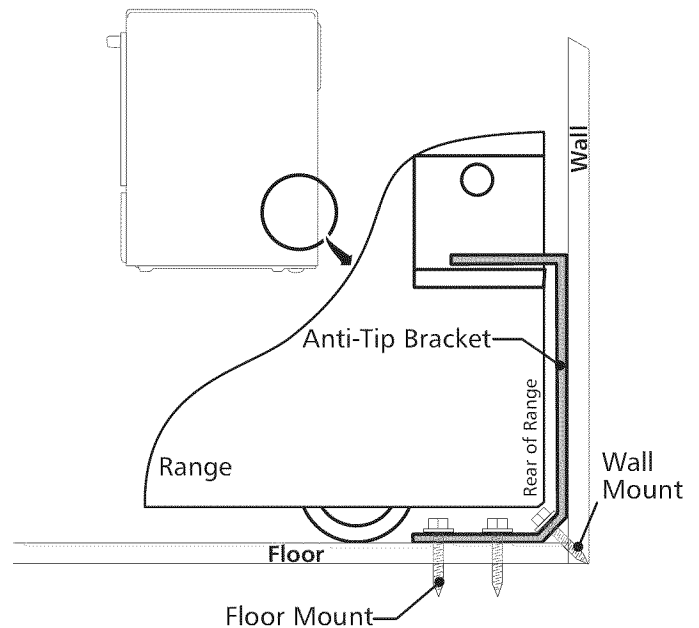

Figure 9
4. Remove template and place bracket on floor. Line up holes in bracket with marks on floor/wall and attach with screws provided. Bracket must be secured to solid floor or wall (Figure 9). If attaching to concrete floor, first drill 3/16" (0,48 cm) dia. pilot holes using masonry drill bit.
6. Slide range into place making sure structure of the range is trapped by the anti-tip bracket (Figure 9). Lower the range by adjusting the levelling legs until the underside of the cooktop is sitting level on the countertop. Refer to "Levelling the Range" section.
2. Adjust the appliance wheels and legs as follows until the underside of the cooktop surface is sitting level on the countertop (Figure 9).